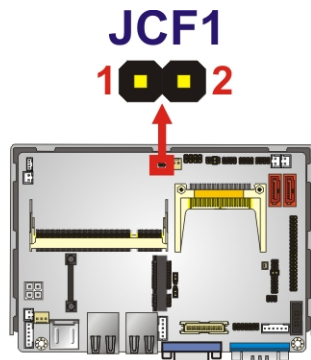

Figure 4-7: CompactFlash® Master/Slave Selection Jumper Location
- Jumper Location:** See Figure 4-7